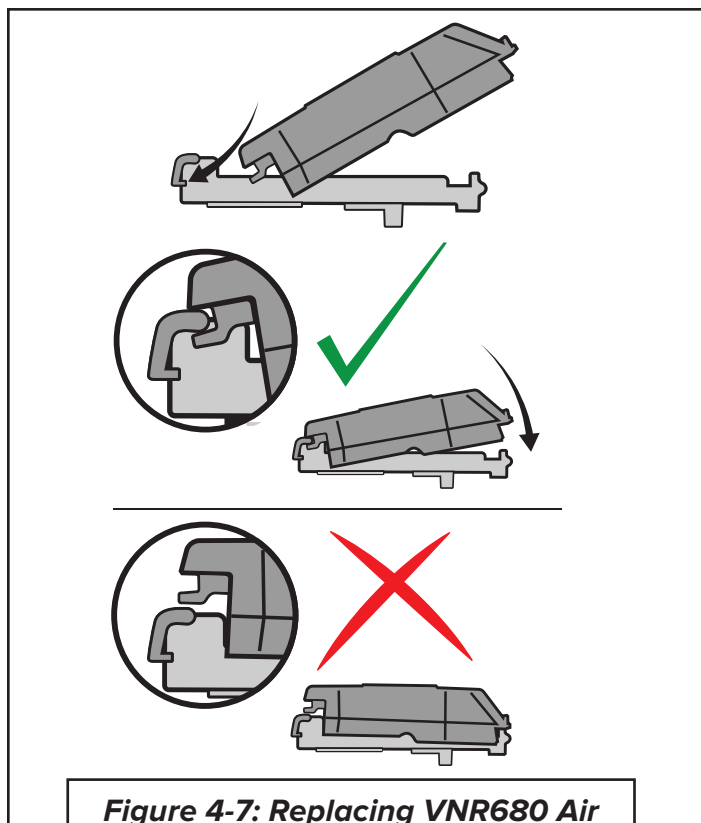

Figure 4-7: Replacing VNR680 Air Cleaner Cover
6. Replace the clean or new filter element into place. Carefully reinstall the air cleaner cover according to reference shown in **Figure 4-7: Replacing VNR680 Air Cleaner**